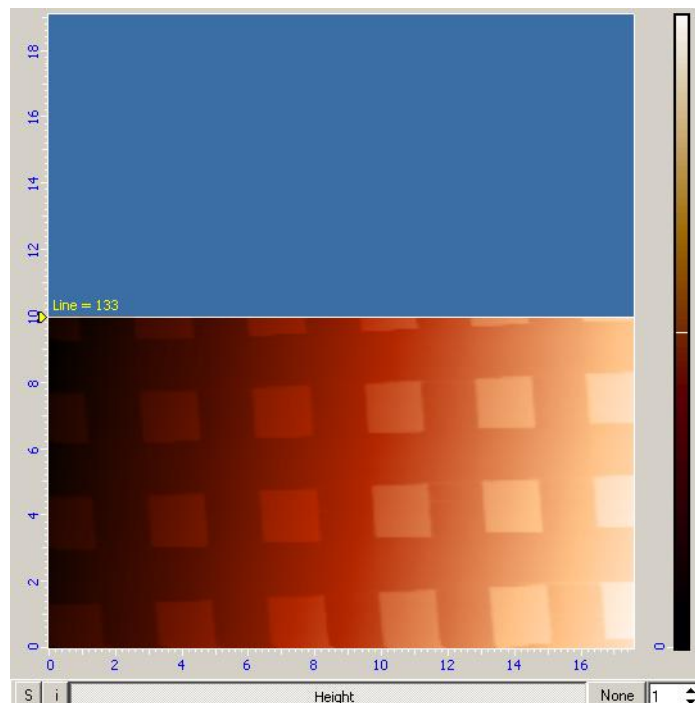
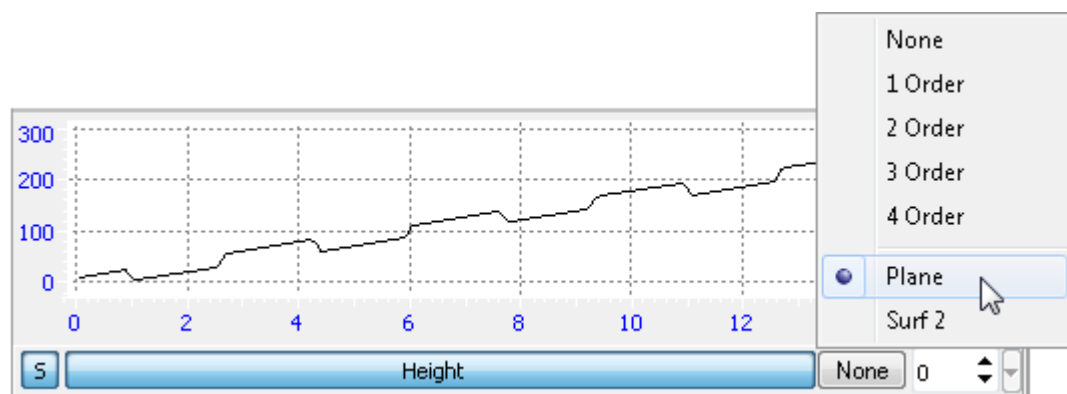

Fig. 8-21. Surface topography image
Fig. 8-24
- Line-by-line scanning of the sample surface starts and the corresponding image of the scan area appears in the 2D Viewer of the scan data (see Fig. 8-21);
Data in the example above (see Fig. 8-21, Fig. 8-22) reveal that the sample is tilted to some degree along the X direction.
To activate run-time subtraction, click this button and select the **Plane** option in the corresponding list (see Fig. 8-24). This entails subtraction of the plane tilt, and the original image, illustrated in Fig. 8-21, is transformed into the image shown in Fig. 8-25.